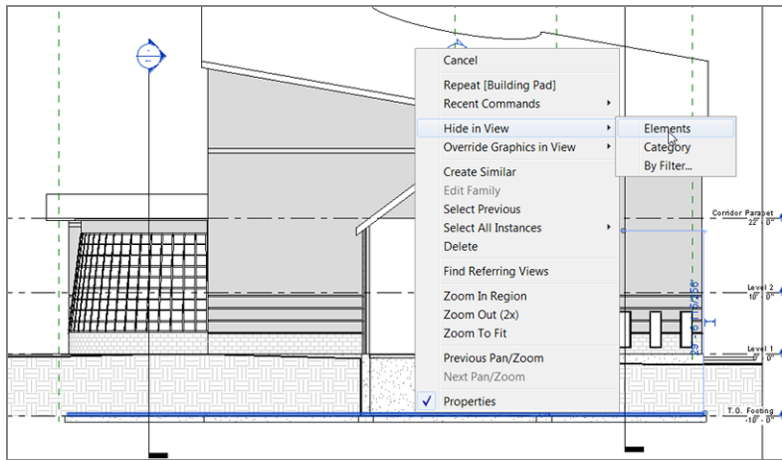

FIGURE 18.21: Hiding the pad in the view
13. You can see the pad sitting on top of the footing extending past the wall, as shown in Figure 18.21. Select it.
14. Right-click, and select Hide In View > Elements (see Figure 18.21).